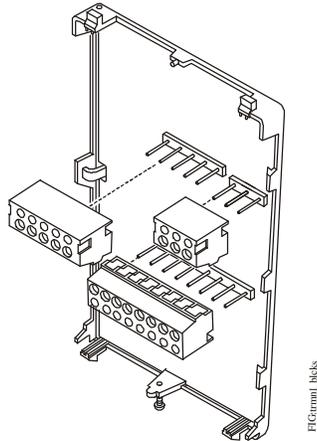

Figure 4: Removing the Screw Terminal Blocks
- Remove the screw terminal blocks that are attached to a disposable adhesive. Figure 4 illustrates the locations of the screw terminal blocks on the thermostat controller.